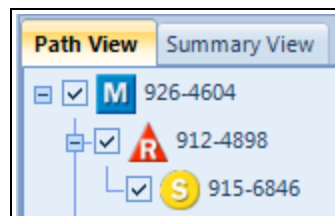

Figure 39: Example: Alerts
- The icon color indicates whether the device is in an warning or alarm status. Figure 39